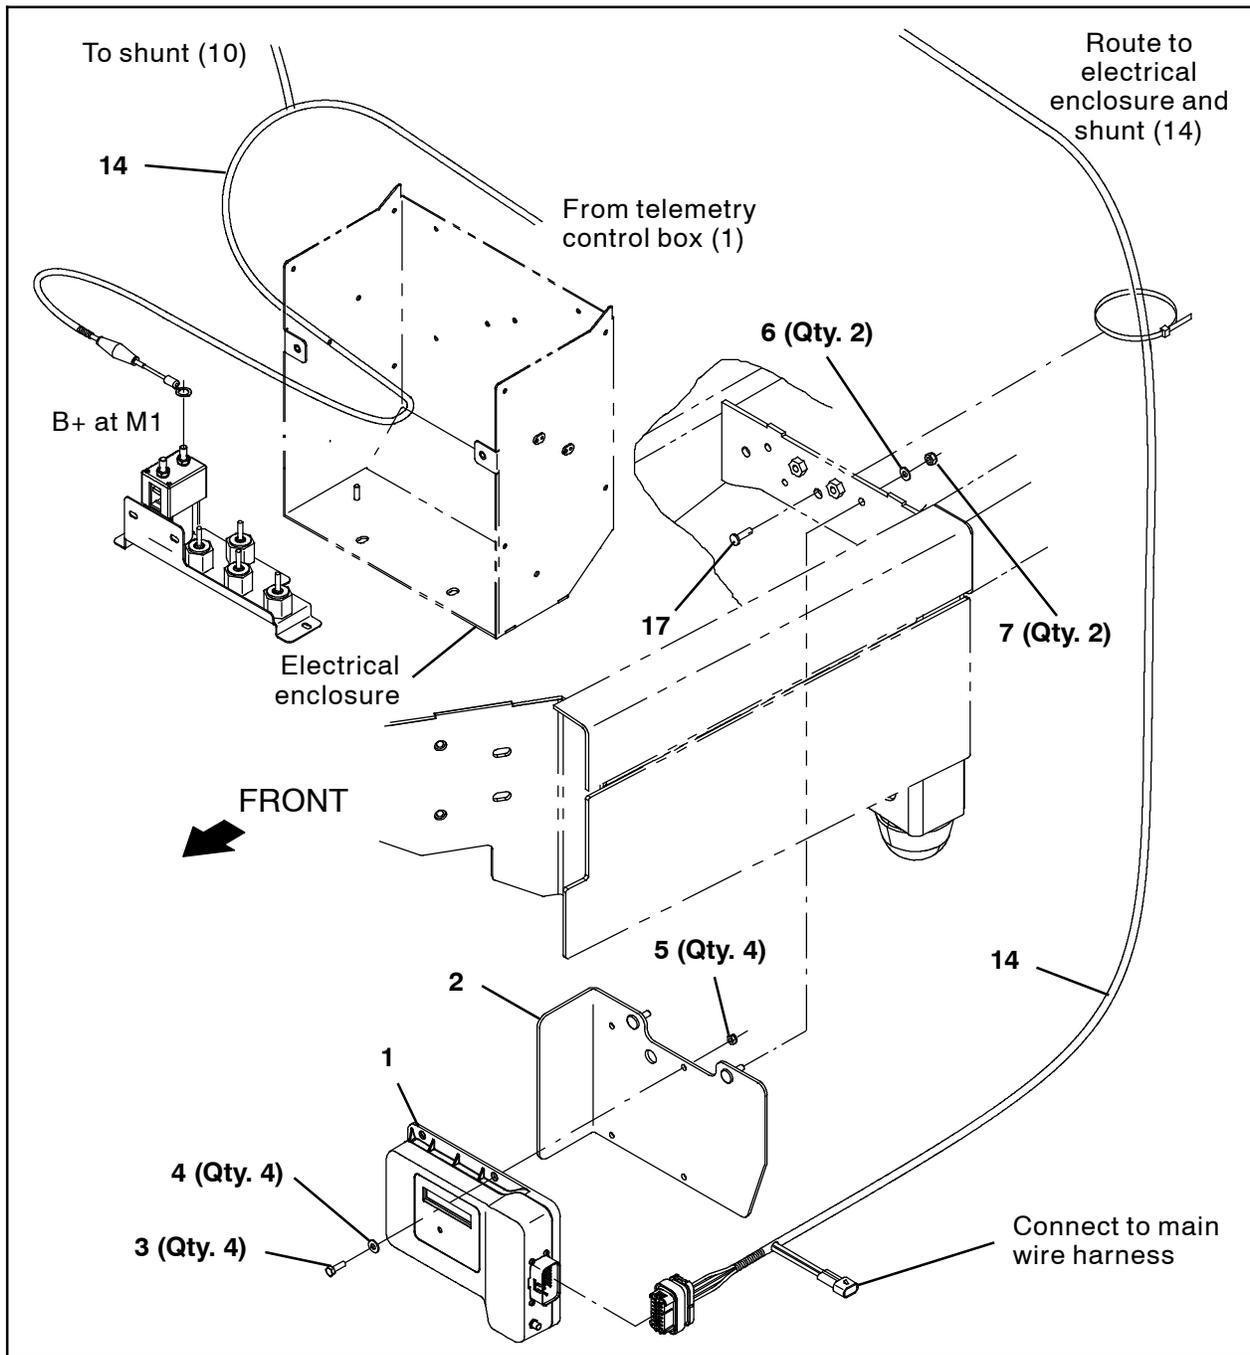

**FIG. 10**
- Connect the other end of the black cable (16) connected to the shunt (10) to the insulated rubber standoff (machine negative) inside the electrical enclosure. (Fig. 10 / Fig. 6)
- Route the battery cable (15) red cable into the electrical enclosure and connect the red cable to the B+ at M1 location on the 36 VDC contactor. (Fig. 10 / Fig. 6)